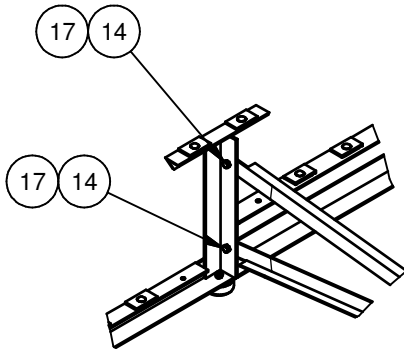

Figure 4
3. Lay out the Frame weldments approximately 6' apart. Install the brace sub-assemblies from step 1 using the 3/8" x 1" hex bolts and 3/8" whizlock nuts as shown in Figure 4.
7. Install the seat planks using the mounting clips, 5/16" x 1" carriage bolts, and 5/16" whizlock as shown in figure 4. Note: these mounting clips, bolts, and nuts are required at every frame position.